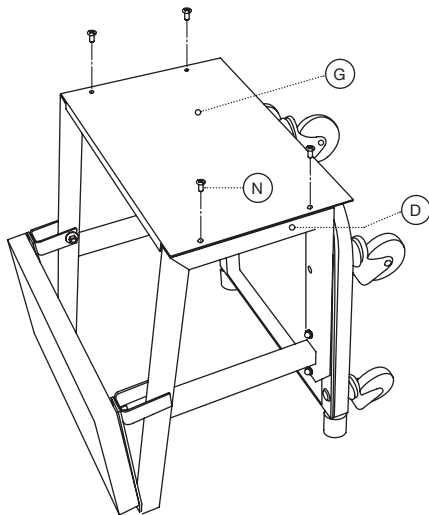

Figure 4 – Attaching Step to Side Frames
4. Fasten Creeper Step (G) to Side Frames (D) using four M6 x 16 Phillips Head Screws (N). Ensure that the Creeper Step (G) sit securely between the Side Frames (D) before tightening the screws (Fig. 4).